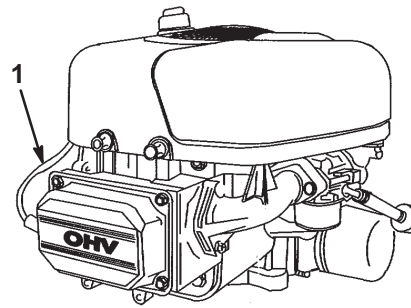

Figure 18
6. Disconnect the wire from the spark plug (Fig. 18).
3. Connect the wire to the spark plug (Fig. 18).